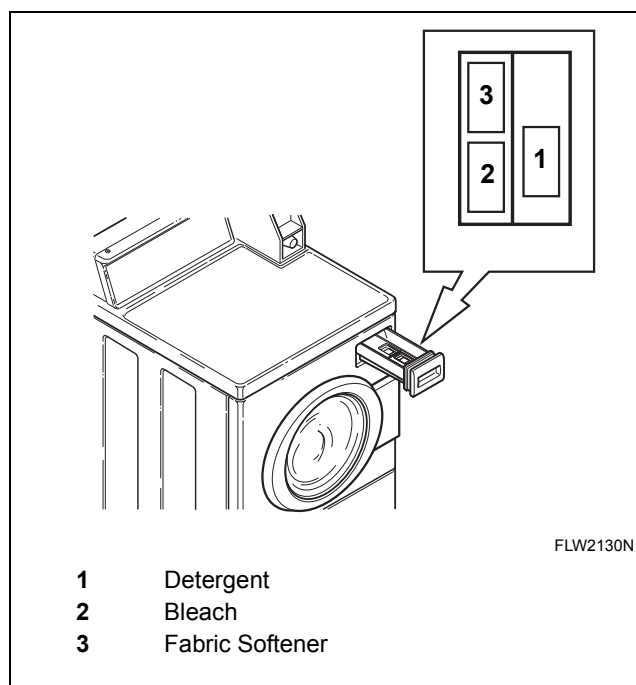

Figure 33
Open dispenser drawer. Measure and add low sudsing, high efficiency (HE) detergent (1), bleach (2) and fabric softener (3) to the dispenser drawer (refer to Figure 33). Close dispenser drawer.